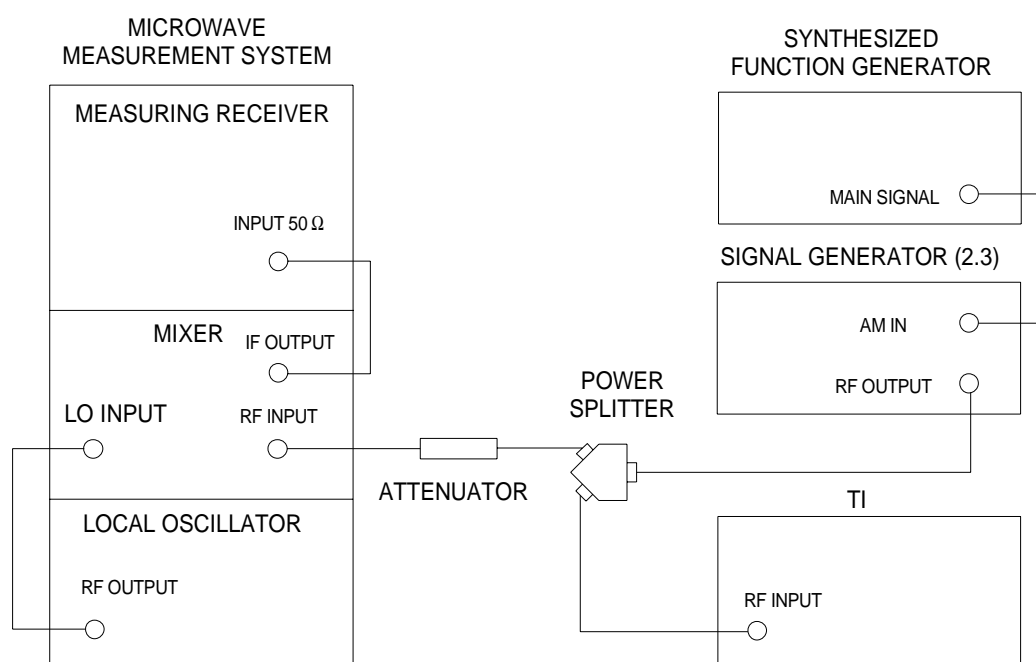

Figure 1.
4.4.3 Connect equipment as shown in Figure 1.